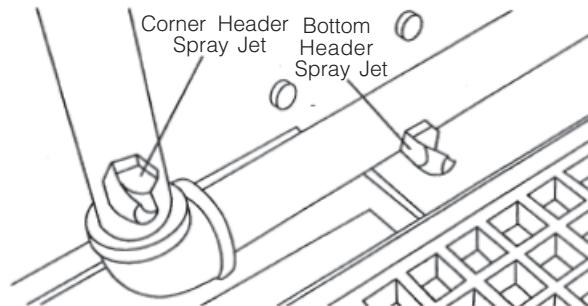

Figure 5-1. Adjust Header Spray Jets
- d. Individually adjust the bottom header spray jets to direct water 45° inward (see Figure 5-1).
- e. Individually adjust the corner header spray jets to direct water 45° inward (see Figure 5-1).